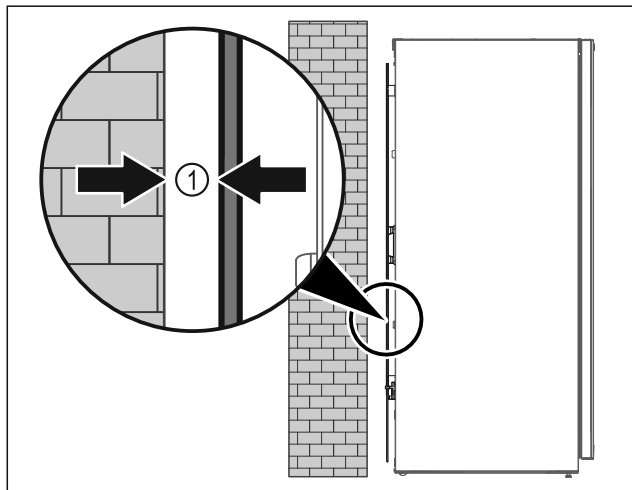

Fig. 52
- Set up the appliance either free-standing or directly against a wall at a minimum distance of 5 mm Fig. 52 (1).